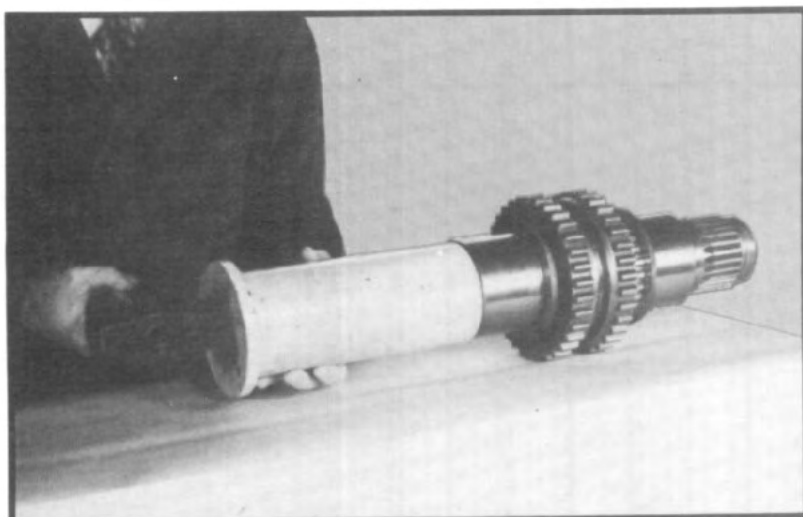

Fig. 139
3.3 Tap the needle bearing inner races over each end of shaft. (The needle bearing inner race must be snug against the thrust washer, See fig. 139.)